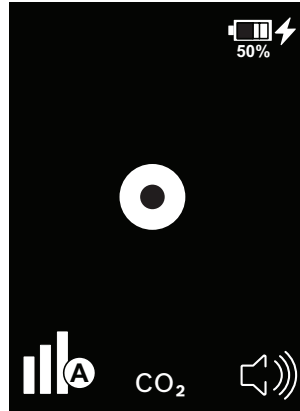

Fig. 21: Steady state display with charger connected
- ⇒ *Active charging is indicated with a lightning bolt icon in the upper right corner of the screen (see Fig. 21).*